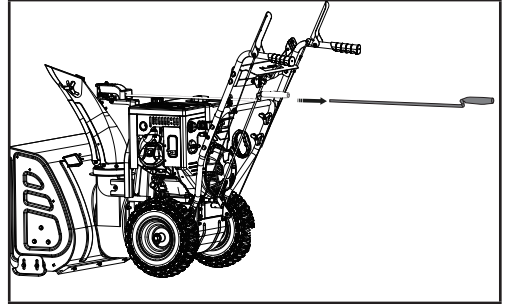

Figure 34
3. Remove the lever from the discharge chute bracket (Fig. 34).